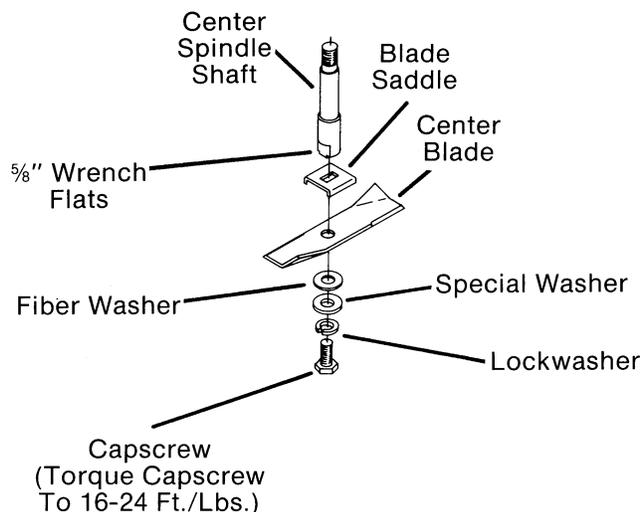

FIG. 13
- C. Remove **one** capscrew, lockwasher, special washer, fiber washer, blade and blade saddle from end of center spindle shaft. (Fig. 13)
NOTE: Center spindle shaft has two flat sides that will accept a $\frac{5}{8}$ " open end wrench, which will aid in the removal of the blade mounting capscrew. (Fig. 13)